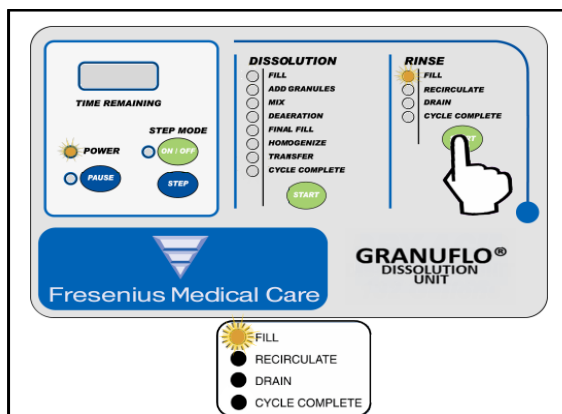

Figure 2
2. The *RINSE CYCLE* consists of two complete *RINSE* Operations. Press the Rinse side *START* button. The Fill Indication Light will illuminate indicating the *RINSE CYCLE* has started and the GranuFlo I Dissolution Unit is in *FILL* Operation (Figure 2). Verify tank is filling and the water level stops at the 25-Gallon Sensor. Lift the Access Lid and look into the tank to verify that the tank is filling.